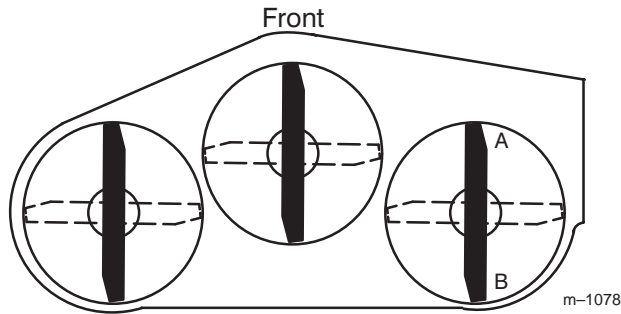
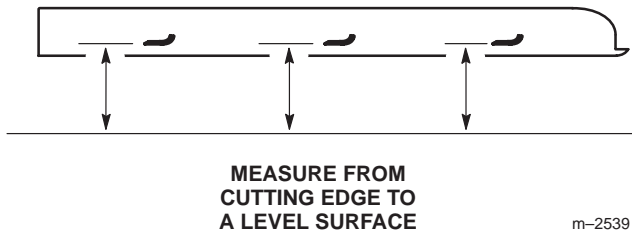

Figure 52
Figure 53
- Position the **right** blade front to rear (Fig. 52).
- Measure the right blade at the **A** location (Fig. 52) from a level surface to the cutting edge of the blade tip (Fig. 53).
- Measure the right blade at the **B** location (Fig. 52) from a level surface to the cutting edge of the blade tip (Fig. 53).
- The mower blade should be **1/4 to 3/8 inch (6 to 10 mm) lower at position A than at position B** (Fig. 52). If it is not correct, go to the following steps.